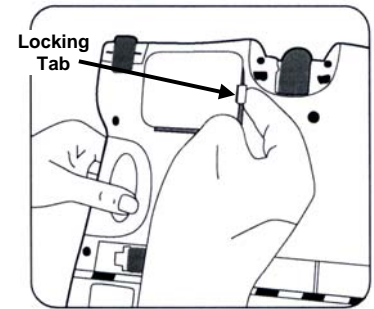

Fig. 4
3. Push in locking tab and lift off battery compartment cover. (Fig. 4)